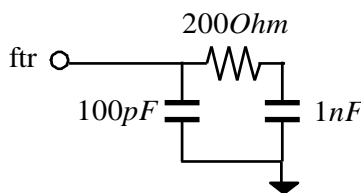

Fig. 2. External Loop Filter
The Clock Recovery Block (CR) contains both a phase and frequency acquisition loop. The frequency loop works in concert with low-speed clock $c32p/c32n$ while the phase loop utilizes data signal dp/dn . The CR requires a single off-chip filter shown in Fig. 2 to be connected to pin ftf .